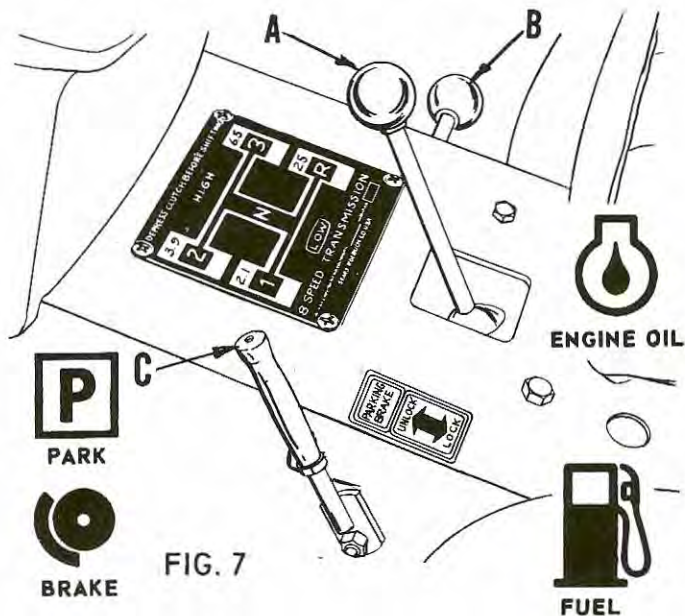

FIG. 7
- a. Transmission gear shift lever (A, Fig. 7), is in NEUTRAL.
- b. The high-low range lever (B, Fig. 7), is in NEUTRAL.